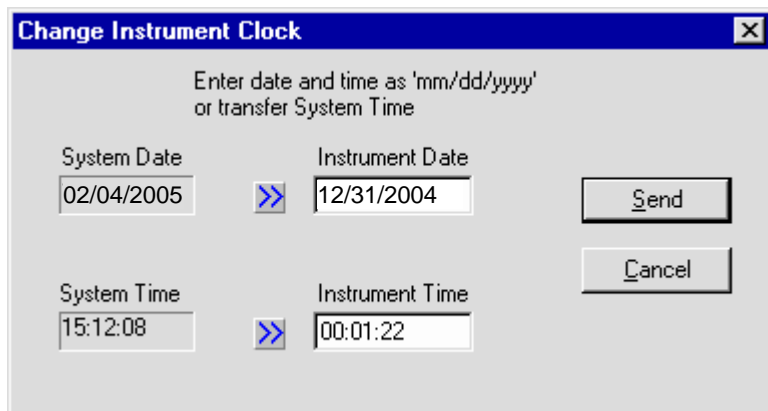

Figure 3-14: Time/Date Programming with TRAKPRO Data Analysis Software
2. Using the TRAKPRO software, select **Parameters**, **Instrument Setup**, **Clock**. The software retrieves the current date and time settings from the Q-TRAK Plus monitor and displays them in the dialog box displayed in Figure 3-14.